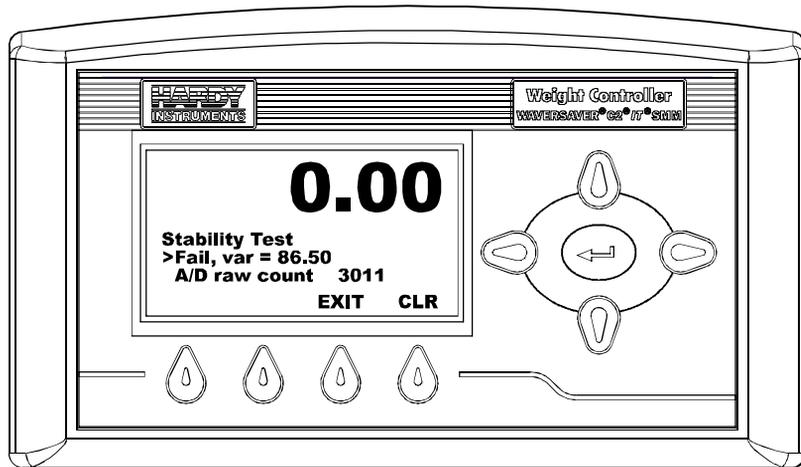

FIG. 395 STABILITY TEST/FAILED TEST
- If the test indicates “Fail” the instrument is unstable. (See Fig. 395) This means that the Mean Squared Variation is greater than 5.0 and/or the average reading is not between 30237 and 36955. This test examines the internal electronics and not the load cells input signal. Refer to the Troubleshooting Section if needed.